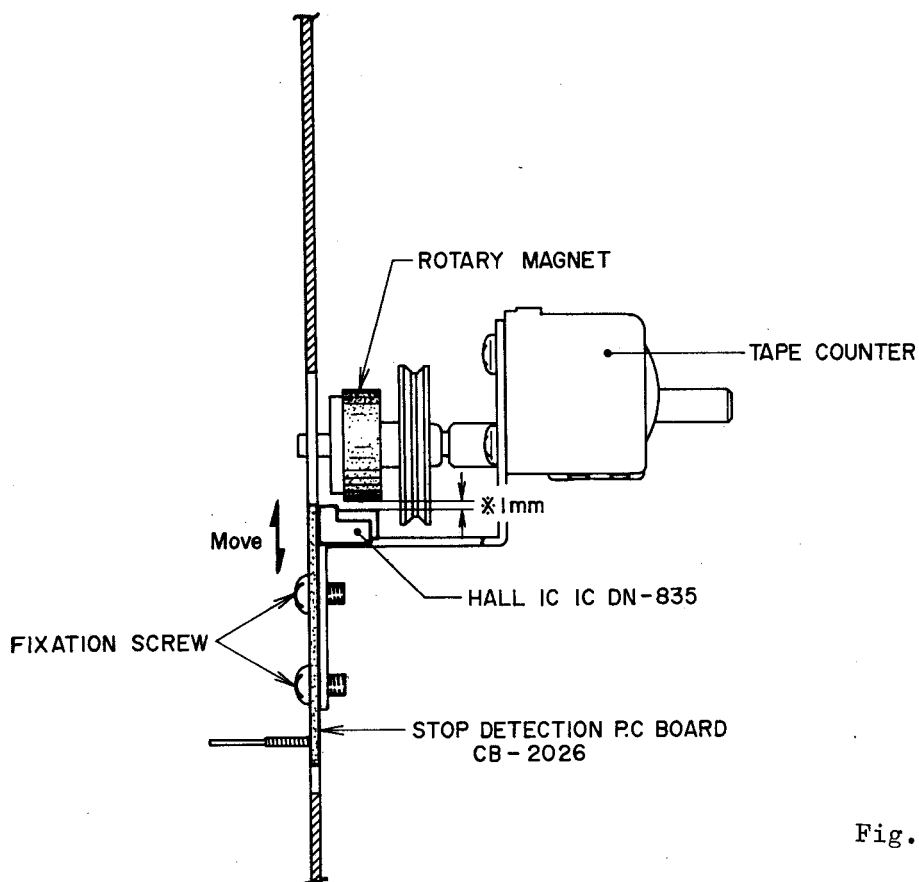

Fig. 14
## 11) Clearance Adjustment Between Hall IC and Rotary Magnet (Refer to Fig. 14)
- a. As shown in Fig. 14, move Stop Detection P.C Board as indicated by the arrow mark in the figure, and adjust position so that the clearance between the Hall IC and rotary magnet is 1 mm.